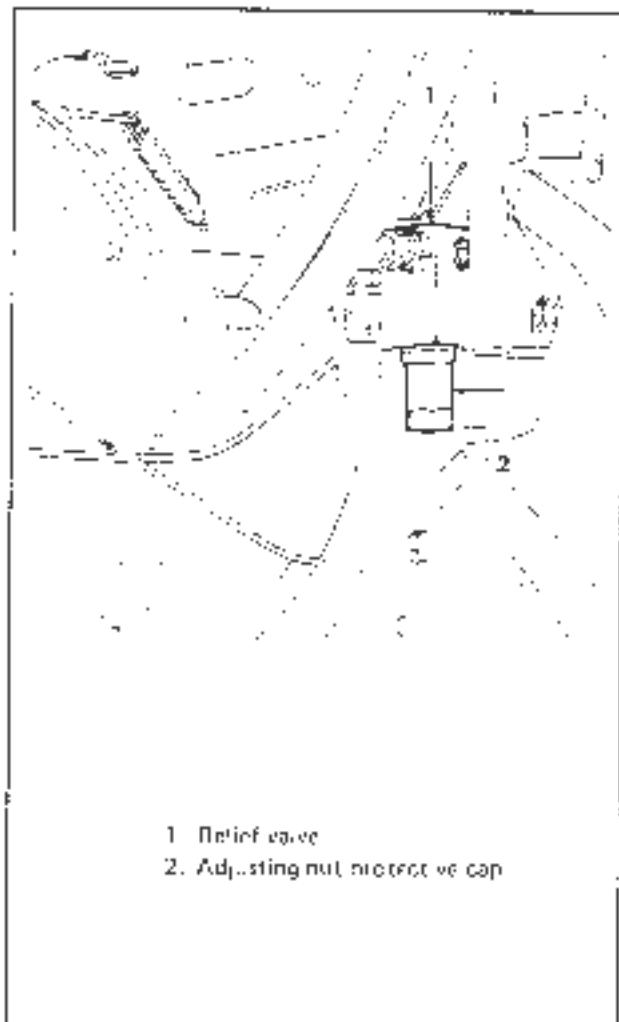

Figure 36. Setting of the hydraulic system relief valve
- Fully depress lever (fig. 36, item 3) to direction shown and hold it in place.
- If pressure is found to be lower, set properly the hydraulic system relief valve (see fig. 36) by screwing on or screwing off adjusting nut with a screw-driver. Remove cap prior to taking action.